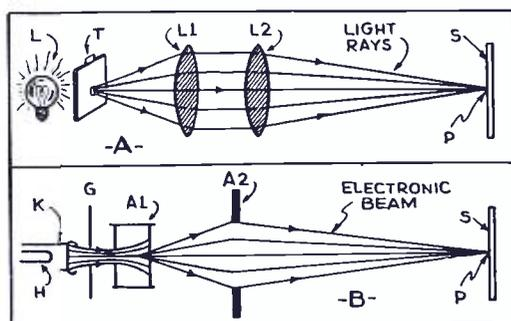

Fig. 2. The analogy of focusing light and cathode rays is illustrated.
spread out, fan-shaped, as it travels toward the screen. This spreading out is caused by the mutual repulsion of the individual electrons of which the beam is composed, since they are really all negative electrical charges and "like" charges repel each other. It is necessary to prevent this spreading out of the electron stream; in fact in order to get only a tiny spot of light on the fluorescent screen, S, it is necessary to actually focus the electron stream to a fine, sharp point at the screen, much the same as the light rays from an incandescent lamp, L, may be focused to a point, P, on a screen, S, by means of the two lenses L1 and L2 as shown at (A) of Fig. 2. The amount of light may be controlled by the shutter T, which when closed completely shuts off the light. The size and definition of the image on the screen S are controlled by adjusting the position of the lenses to the correct distance. This is